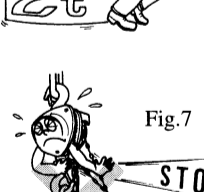

Fig.7
8) Do not perform over-winding, that is, over-lifting or over-lowering. Check whether the chain hoist is overwound or not when the hand chain cannot be easily pulled during operation. (Fig.7)